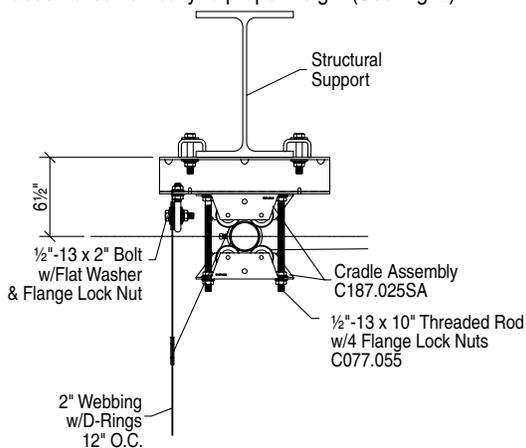

Figure 2
- ③ Install drive pipe support assembly angles per location shown on shop drawing.
- ④ Attach drive pipe support assemblies to angles with threaded rod. Adjust assemblies vertically to proper height (See Fig. 2).